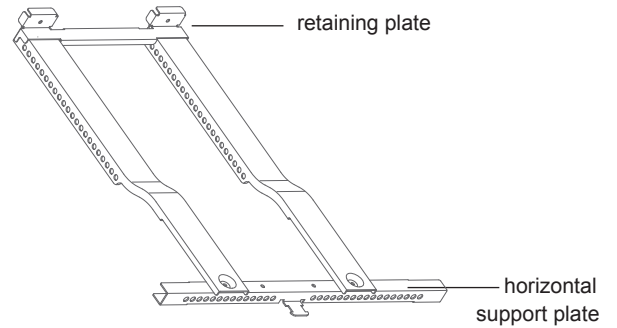

Fig.1
A. Connect the retaining plate and support rail via snaps. And fix the horizontal support plate to the main support connection plate with screws. See Fig.1.